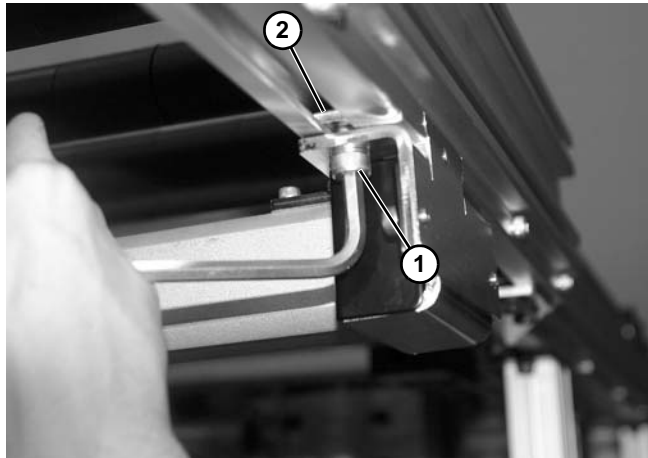

Figure 74
2. Remove screws (**Figure 74, item 1**) connecting the motor to the spring nuts (**Figure 74, item 2**) in the conveyor frame.